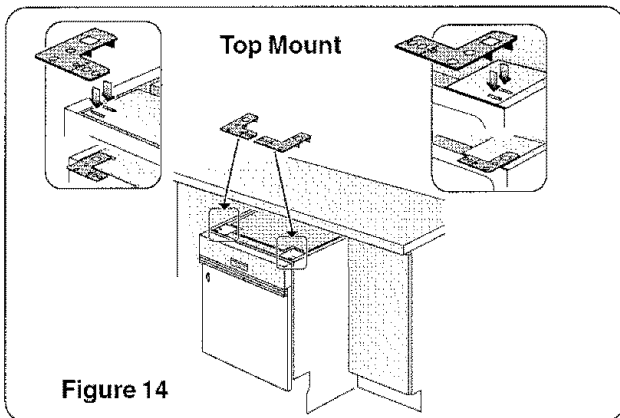

Figure 14
- 1 **Top Mount** is used for countertops made of wood or other materials that can easily drilled. Orient the mounting brackets as shown in Figure 14, and position the two small tabs on the mounting brackets over the two slots on the dishwasher's front corners. Push the mounting brackets down firmly to insert the tabs into the slots.